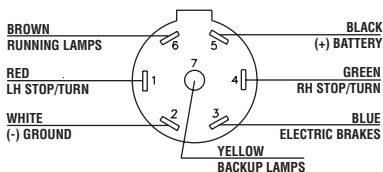

FIG. 2 - View looking into connector
4. Connect the remaining wires by crimping yellow heat sealable butt connectors (provided) to the vehicle's (+) Battery power supply, Electric brake control and Backup lights circuit (provided) to the corresponding wires on the adapter (Fig. 2).